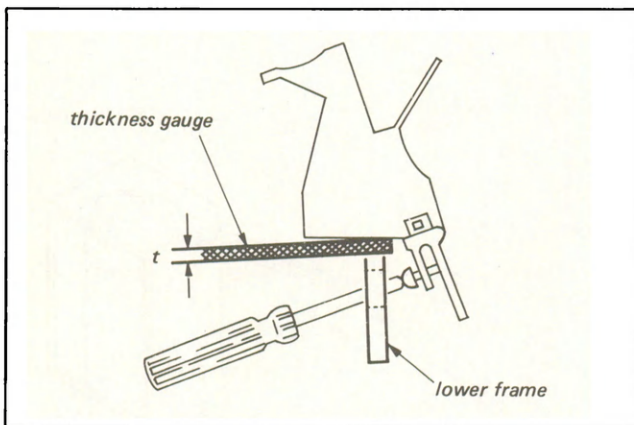

Fig. 3-36.
- The switches must turn on within the above t values. If not, insert a small Phillips-tip screwdriver into the adjustment hole and turn the screw as shown in Fig. 3-36 for the adjustment.
- Set the 3 mm or 5 mm thickness gauge as shown in Fig. 3-36. Tighten the screw, confirm that the switch turns on (by a click or by the operation start when power has been turned on in the STOP mode), tighten the screw further 90 degrees, and check that the switch does not turn off when the screwdriver is removed from the screw. If it turns off, tighten the screw further another 90 degrees.